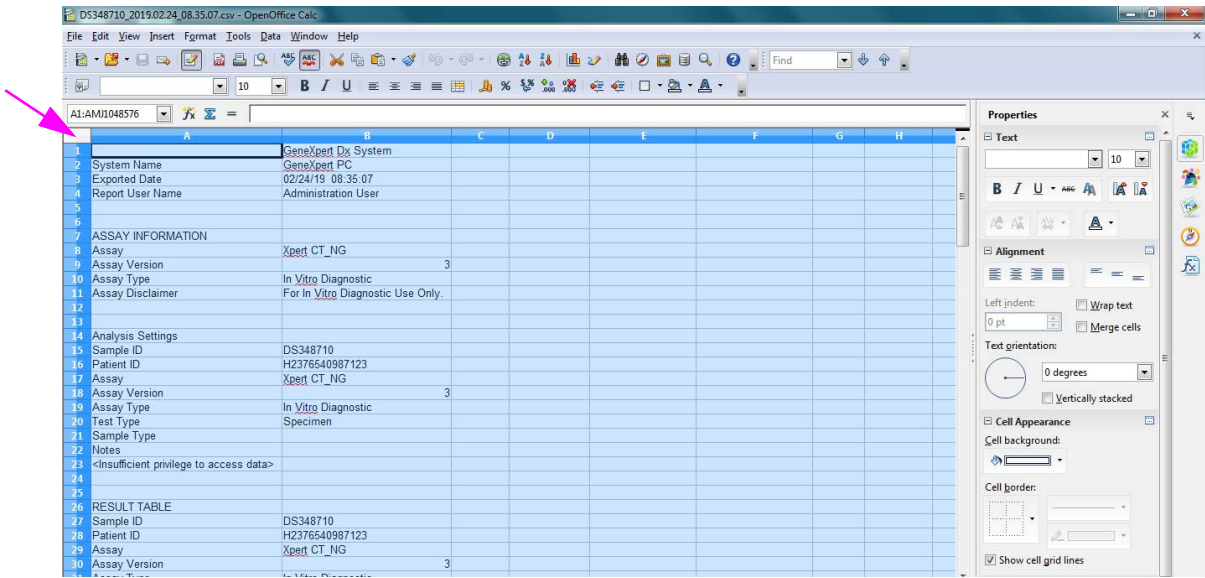

Figure D-5. All Cells Selected
6. After making selections, click **OK**. The .csv file will be displayed. See Figure D-5.
7. Once the file is open, click on the upper left corner of the worksheet to highlight all the cells, as shown in Figure D-5.